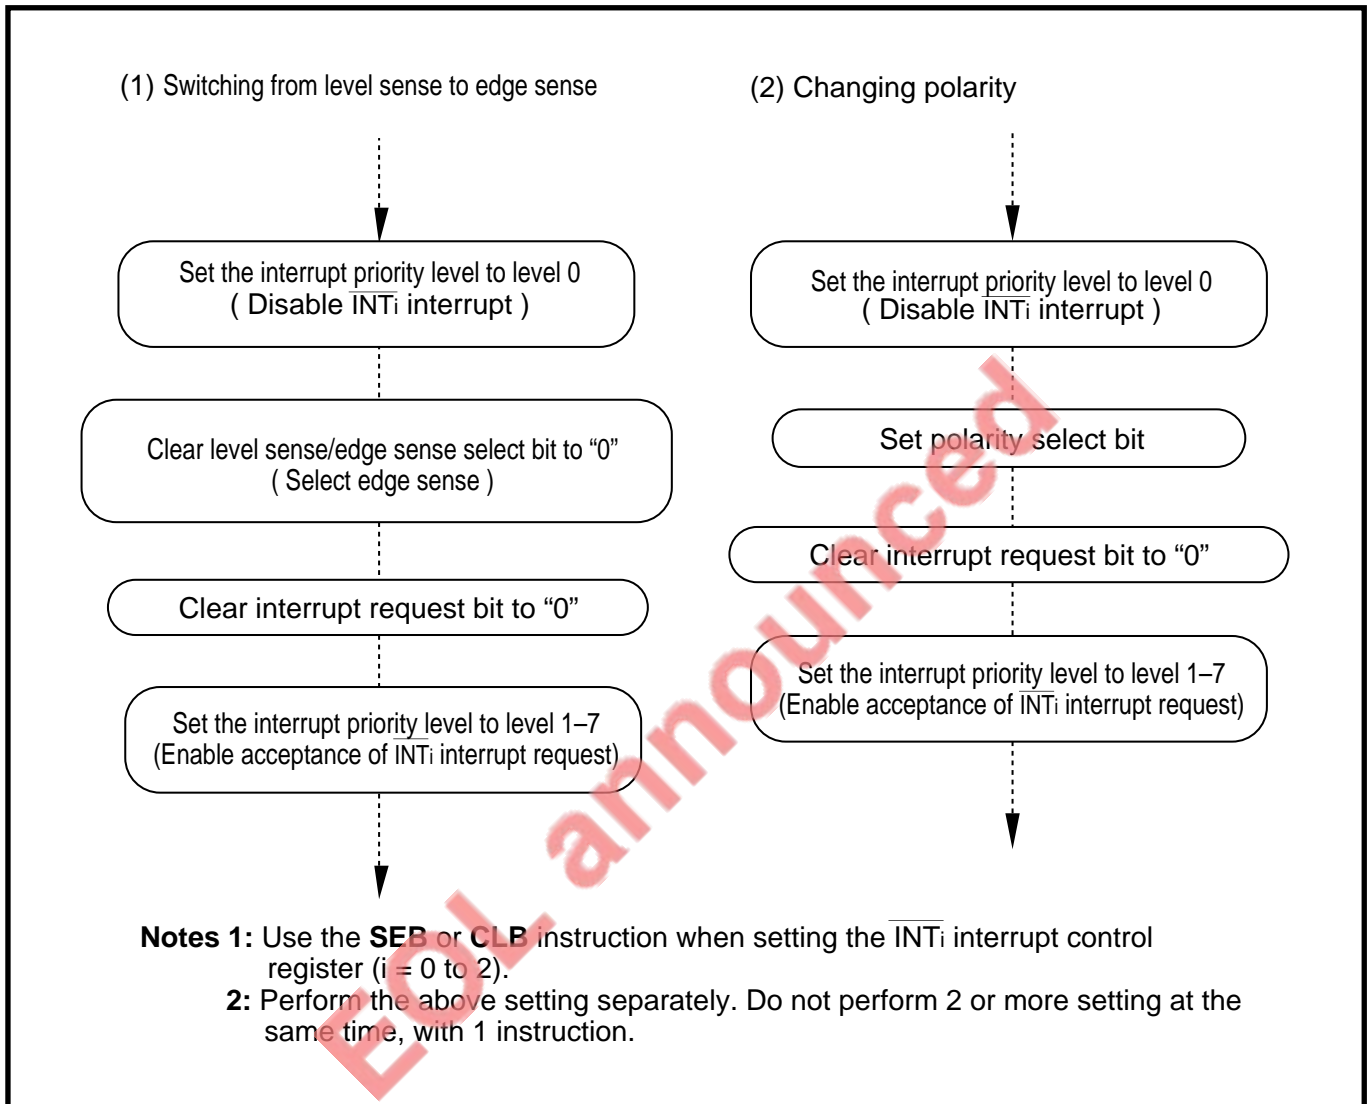

Fig. 4.10.5 Switching flow of occurrence factor of \overline{INT}_i interrupt request
To switch the occurrence factor of \overline{INT}_i interrupt request from the level sense to the edge sense, set the \overline{INT}_i interrupt control register in the sequence shown in Figure 4.10.5 (1). To change the polarity, set the \overline{INT}_i interrupt control register in the sequence shown in Figure 4.10.5 (2).